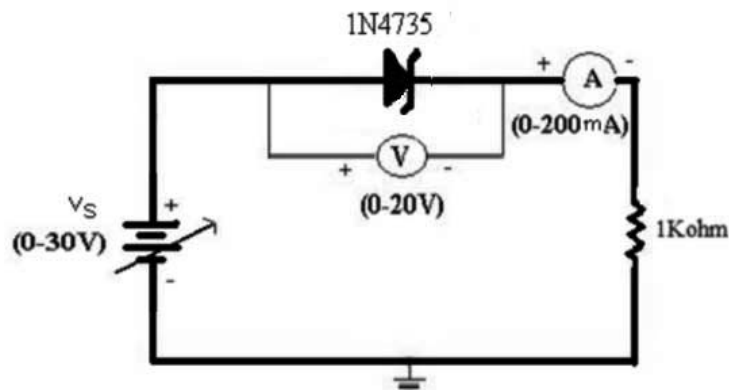

Figure 2: Forward Bias Condition
1. Connect the electrical circuit as in Figure 2.